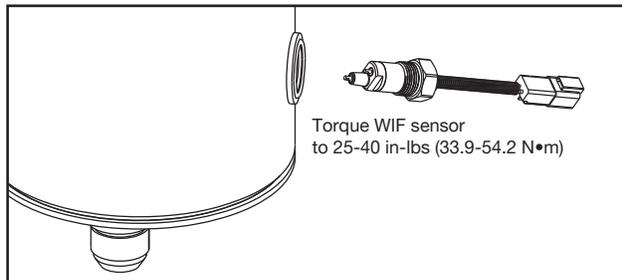

Figure 2 - WIF Probe Installation
Install the WIF Probe (SP1428) into the side of the Sea Pro®. (See Figure 2).
3. Torque to 25-40 in-lbs (2.82-4.52 N•m). (See Figure 2)